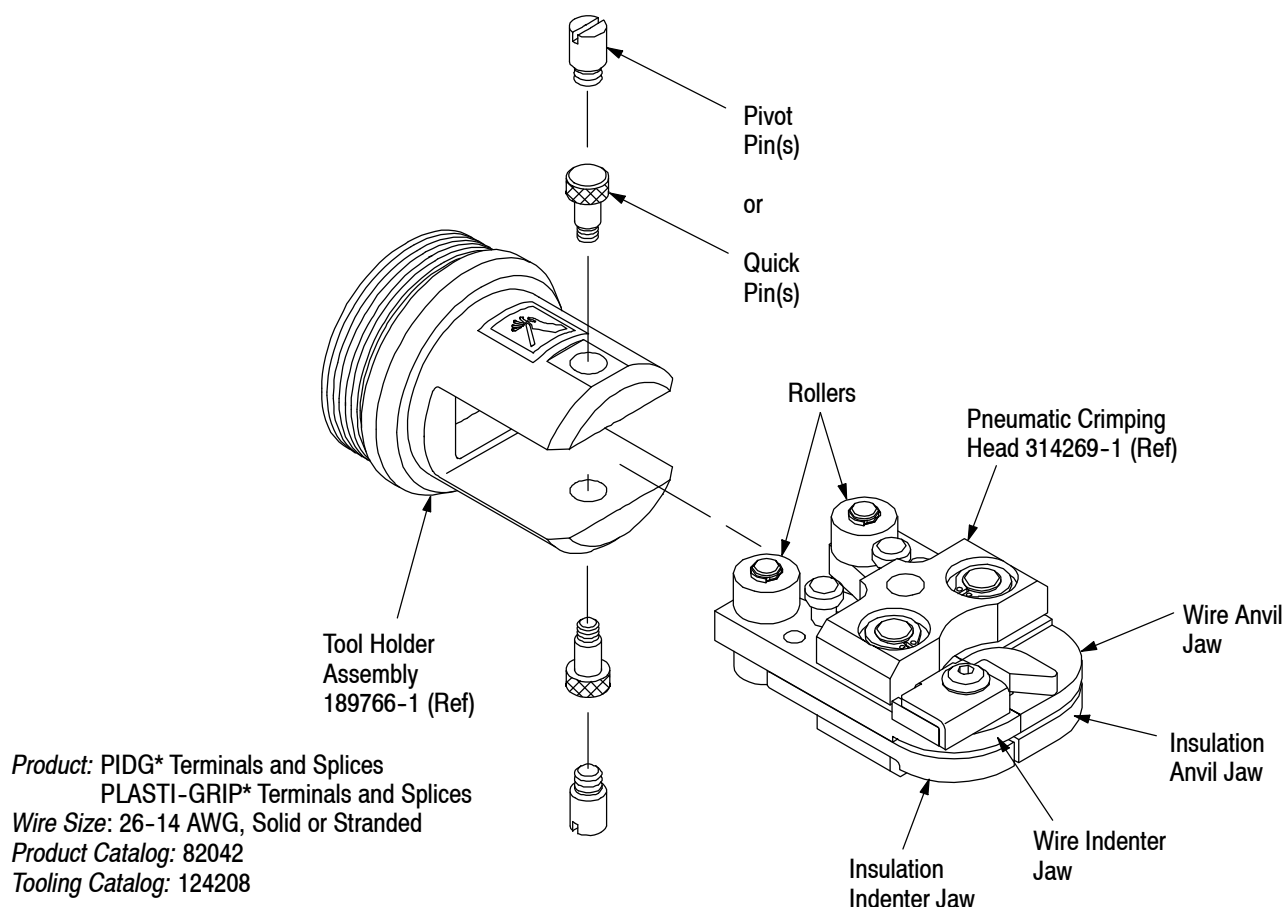

Figure 1
Pneumatic Crimping Heads 314269-1 (shown in Figure 1), 314270-1, 314270-3, 1213001-1, and 314537-1 are designed to crimp PIDG Terminals and Splices, and PLASTI-GRIP Terminals and Splices onto solid or stranded copper wire size 26-14 AWG. Refer to Figure 2. The crimping head is used with 626 Pneumatic Tooling Assemblies 189721-1, 189722-1, or 189724-1 fitted with Tool Holder Assembly 189766-1.
1. Remove quick pins from tool holder. Refer to Figure 1.
2. Insert crimping head into tool holder as shown in Figure 1.
3. After crimping head is properly aligned, insert and tighten quick pins (provided with tool holder assembly) or pivot pins (provided with crimping head). See Figure 1.